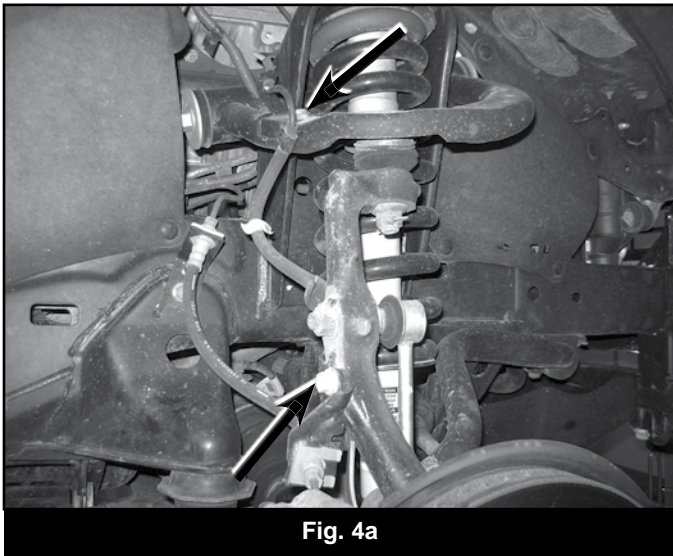

Fig. 4a
7. Disconnect the ABS wire from the upper control arm, backside of the steering knuckle, and steering knuckle bracket. Disconnect the ABS sensor from the steering knuckle. Use care not to damage the sensor. If it is difficult to remove, wait until the hub is removed and press from the inside of the hub bore. Retain hardware. (Fig 4a, 4b)